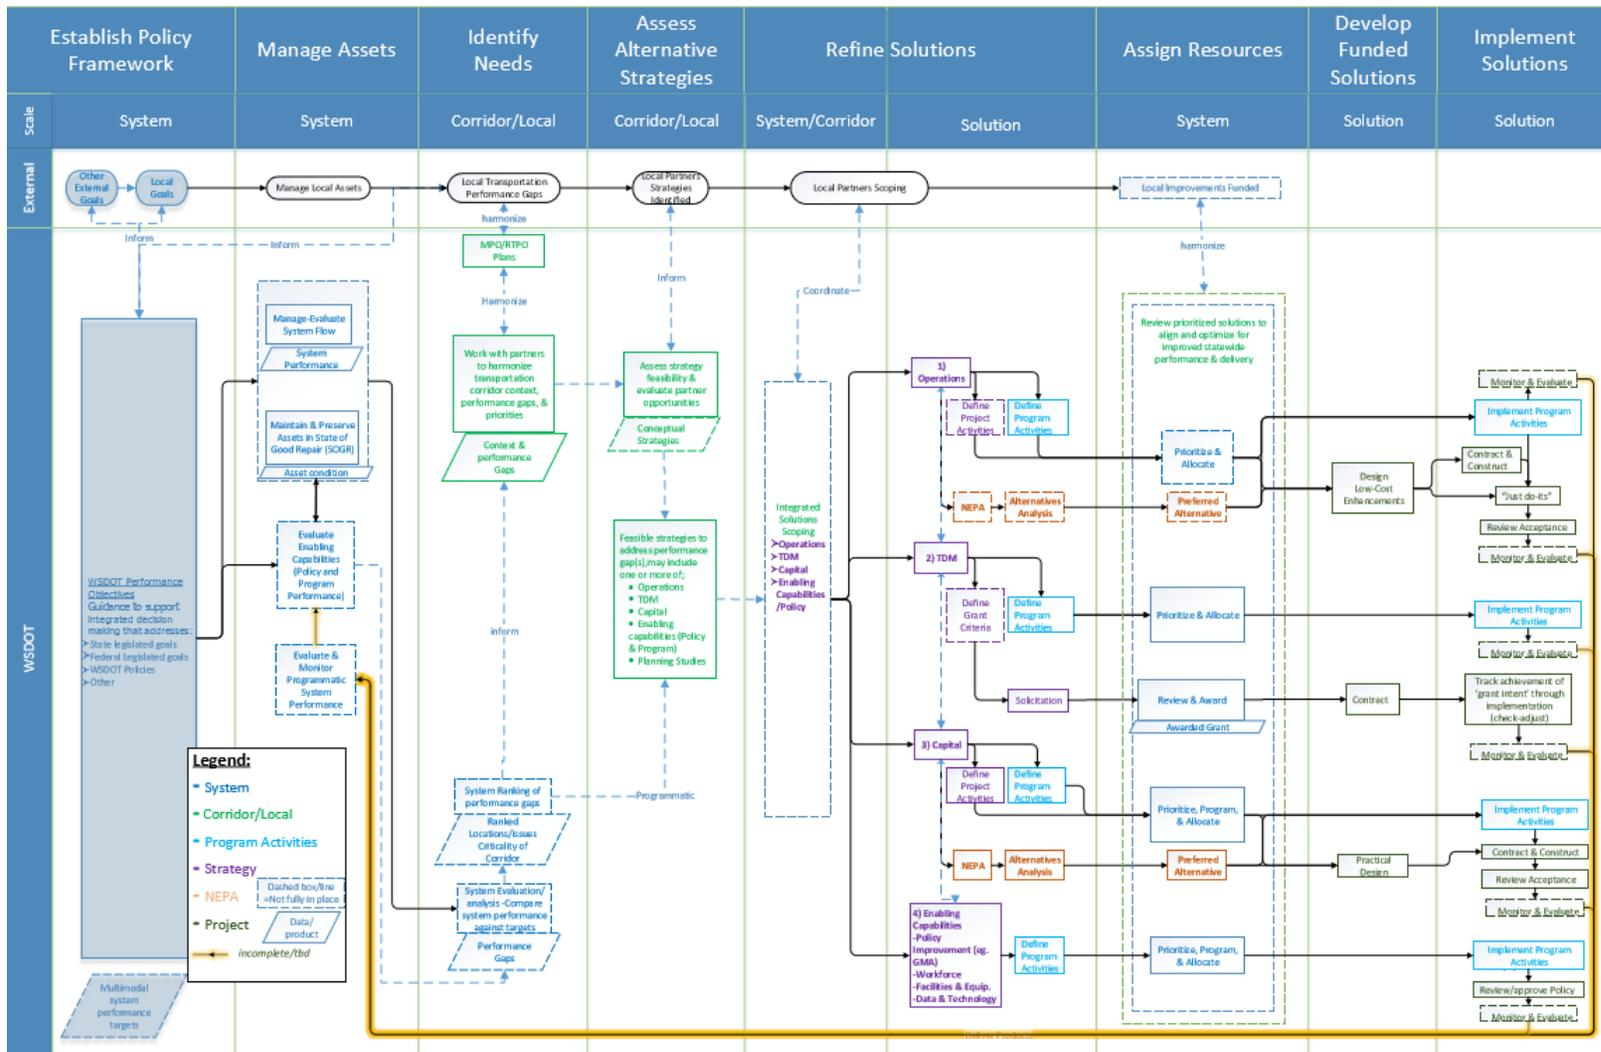

Figure 1. WSDOT Practical Solutions Process Map (as of October 2016)
- Figure 1. WSDOT Practical Solutions Process Map (as of October 2016) 2
In 2015, WSDOT received a grant under FHWA’s Accelerated Innovation Deployment (AID) demonstration program for a project to apply lean techniques and knowledge management for deployment of practical solutions. Through this project, a high-level state map (see Figure 1) of the business process for managing and improving the multimodal transportation system under the PS approach has been developed.
Under the PS AID Project, a series of workshops were held over the summer and fall of 2015 to define Suppliers, Inputs, Products, Outputs and Customers (SIPOCs) for core functions (Goal Setting, Planning, Programming, Project Development, Construction, Maintenance and Operations). These workshops created an initial version of the process map shown in Figure 1. Based on the products of this workshop, an initial set of resource models were developed. A series of meetings with WSDOT functional representatives who were involved in the workshops were held to review and validate the models. In addition, several meetings were held to develop a detailed understanding of the Scoping and Design process at WSDOT and activities underway to develop new guidance for PS. These meetings resulted in updates to the original models.